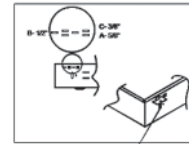

Fig 1
1. Using the mounting tabs or side slots to mount the enclosure between the studs, or using mounting holes provided in the back of the unit for surface mounting. NB. Be sure to leave enough space both on the top and bottom of the unit for wire routing and the "UP" arrow should face to the top. (Fig 1 )